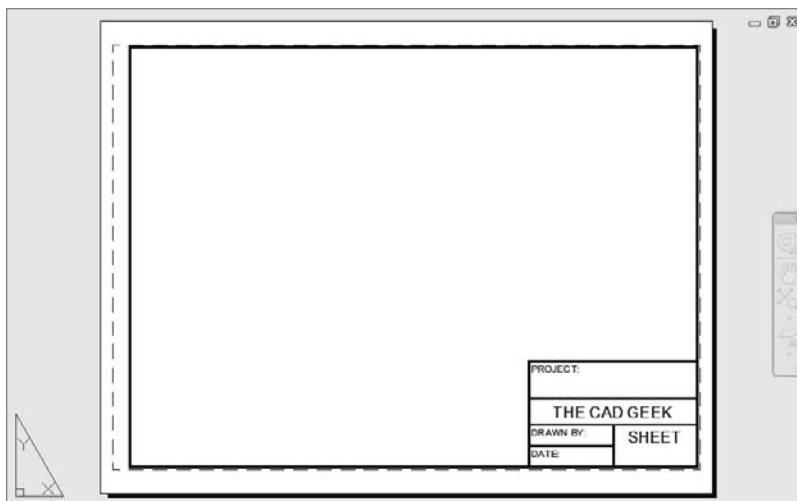

FIGURE 14.22 The sheet template with the title block referenced into it
8. Save the current drawing template (keeping its 14A-BDTPLT.dwt filename). Your sheet template should look like Figure 14.22.